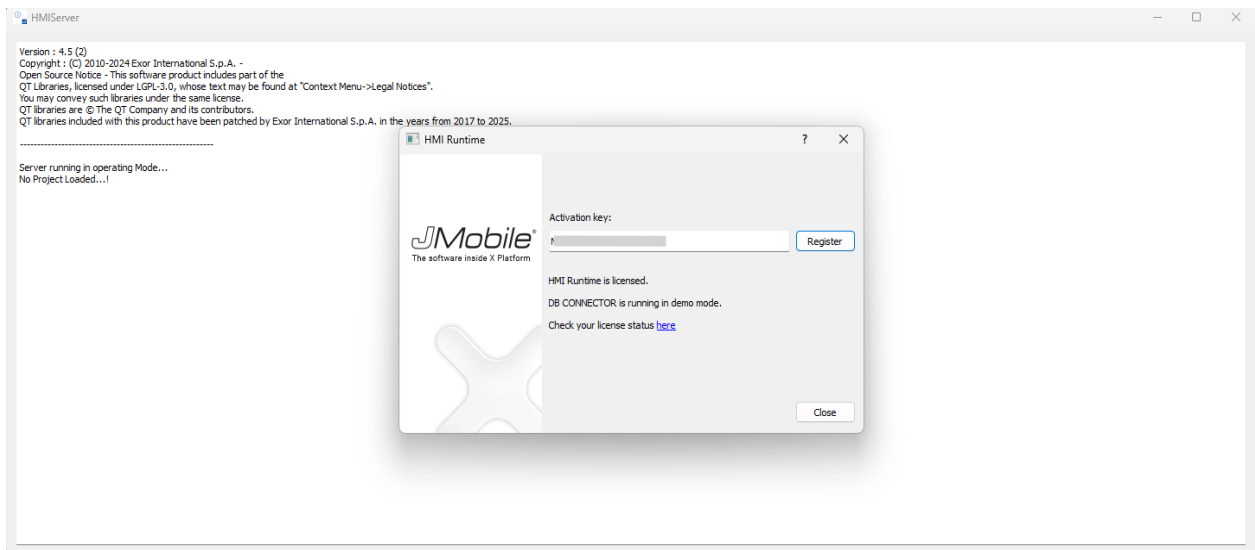

Figure 11 - JMobile Runtime License Confirmation
5. Once the registration process is complete, verify that the confirmation message shown in Figure 11 is displayed, indicating that the license has been successfully registered.